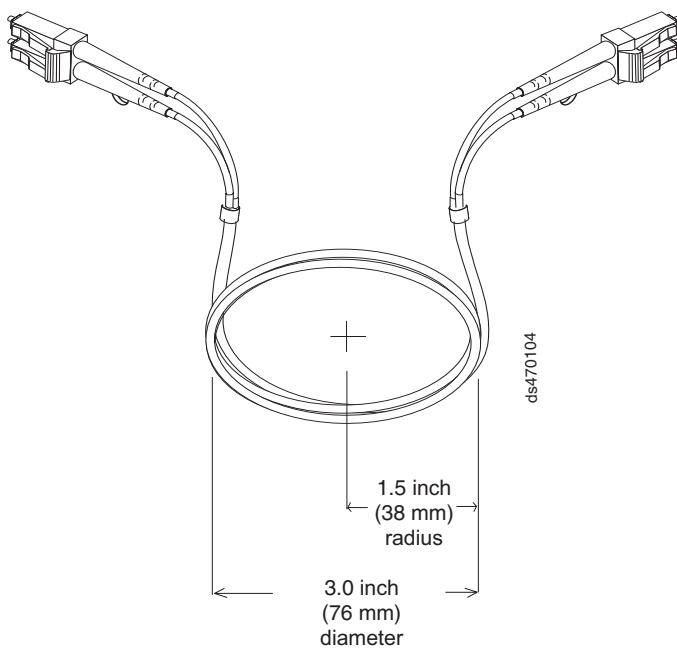

Figure 29. Recommended bending and looping specifications for fibre-optic cables
- When storing excess or unused fibre-optic cables, do not bend the cables to a diameter of less than 76 mm (3 in.), or a radius less than 38 mm (1.5 in.) or wrap them around themselves. See Figure 29 on page 50.